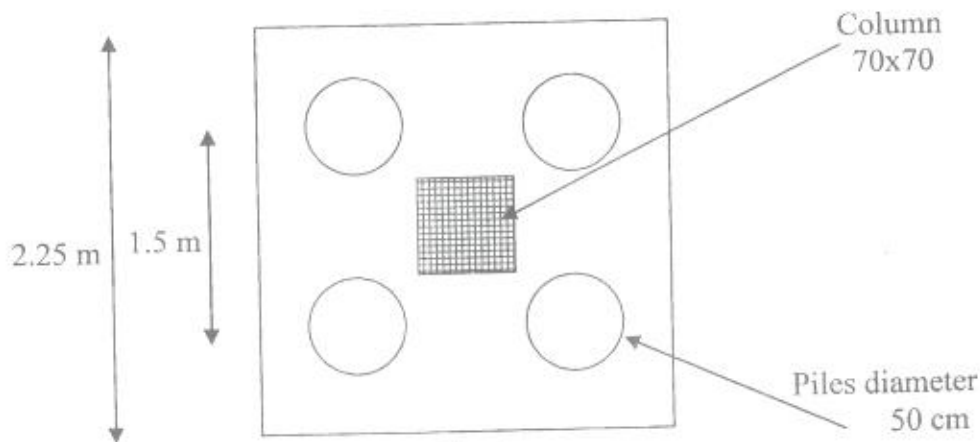

Fig. 1
**Question No. (1) (14 point)**
**Question No. (2) (14 point)**
- (b) For the shown plan of the four pile cap in figure 1, if the thickness of the cap is 0.90 m and the bottom reinforcement in both directions is  $7 \phi 22 / \text{m}$  (high tensile steel), you are required to: Find out the safe column load can be supported by this cap. (10 point)